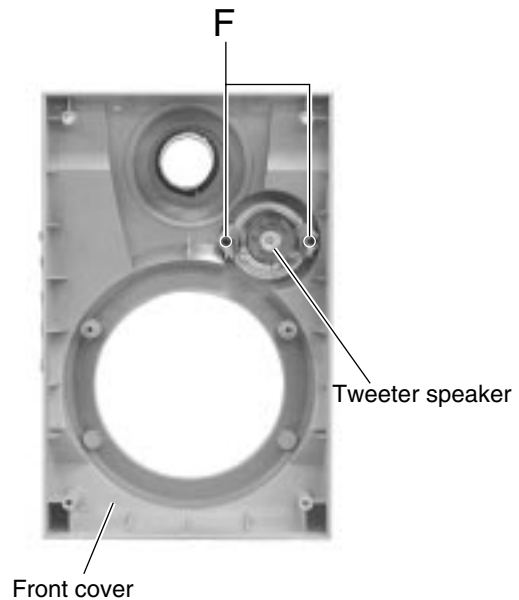

Fig.7
■ **Removing the tweeter speaker (See Fig.7)**